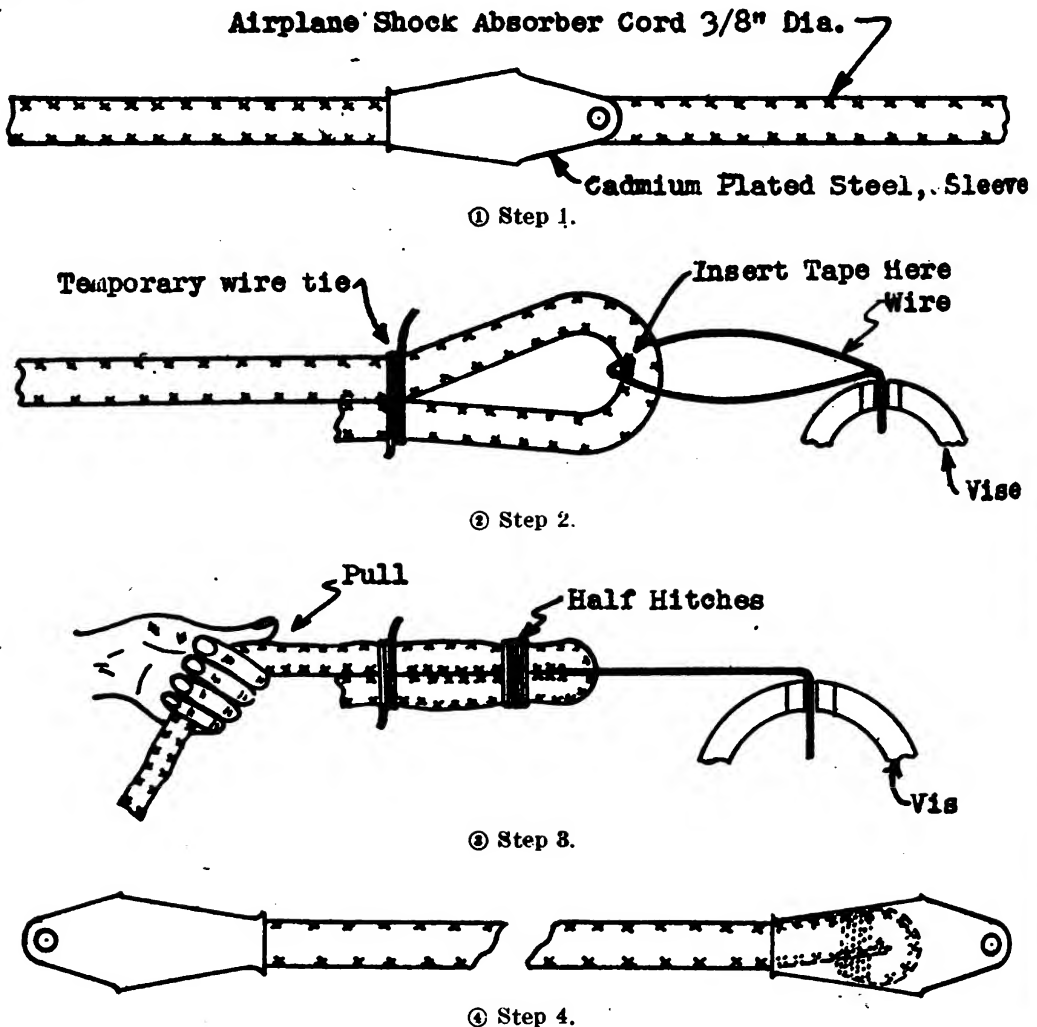

FIGURE 73.—Shock assembly.
**68. Constructing the shock assembly.**—*a.* The following procedure should be followed when fabricating a shock assembly locally. Figure 73 shows this in four steps.
(1) Procure an 18-inch length of standard  $\frac{3}{8}$ -inch aircraft shock cord. This is an item issued by the Army Air Forces. The correct name is Cord, shock absorber,  $\frac{3}{8}$ -inch diameter, Specification No. 20-23.
(2) Thread one end of the shock cord through the small end of a sleeve, pulling about 6 inches of the cord through (fig. 73①).
(3) Form a loop in the end of the cord by bending  $1\frac{1}{2}$  inches of the cord back on itself (fig. 73②).
(4) Wrap several turns of wire around the open end of the loop to hold it in place. This wire will not be a part of the finished job and will later be removed. It is advisable to make these turns as tight as possible, to prevent slipping later on.
(5) Thread a 6-inch length of antenna wire through the eye of the loop just formed and clamp both ends of this wire in a vise. A small piece of friction tape should be inserted between the wire and the shock cord to prevent the wire from cutting the cord during operations 6, 7 and 8.
(6) Have someone pull hard on the free end of the shock cord, so that the cord is stretched out as nearly as possible to its full length.
(7) While the shock cord is stretched, tightly wrap the loop with about 10 turns of No. 6 waxed linen cord. Double the linen cord and use the lockstitch method of binding (fig. 73③).
(8) Apply a coat of shellac to this wrapping.
(9) Release the tension on the cord by removing it from the vise and allow the shellac to dry.
(10) Remove the temporary wire wrapping and cut off the free end of the loop at a bias and as close as possible below the seizing.
(11) Put the cord back into the vise, and with the cord stretched to its maximum length move the sleeve over the loop. The loop should go into the sleeve far enough to clear the holes drilled through the tabs of the sleeve.
(12) Pull out the wire, place the sleeve tabs into the vise and carefully force them together until the holes of the two tabs are close together.
(13) Slip a thimble through the holes of the sleeve tabs.
(14) Attach another sleeve to the other end of the shock cord in the same manner.
b. Figure 73, step 4, illustrates the completed shock assembly. This assembly should be stretched to about half its full length when stretched as far as possible to give a fixed antenna the proper tension.
*c. Sequence of installation.*—(1) When installing an antenna on a small airplane it is best to install the wing and tail sections first, and make them as short as possible. This leaves a maximum amount of space for the actual live wire, an important point for consideration in airplanes which have a very limited available space for antenna installation.